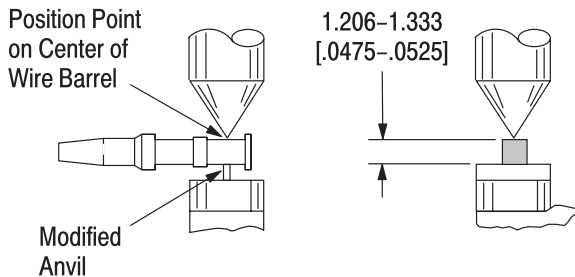

Figure 5
This tool is provided with a crimp adjustment feature. Initially, the crimp height should be verified as specified in Figures 5 and 6. Refer to Section 5, INSPECTION, and Section 6, CRIMP HEIGHT ADJUSTMENT, to verify crimp before using the tool to crimp desired connectors and wire sizes.
This inspection requires the use of a micrometer with a modified anvil as shown in Figure 5.
3. Using a crimp height comparator, measure the crimp height as shown in Figure 5. If the crimp height conforms to that shown, the die assembly is considered dimensionally correct. If not, return the dies to Tyco Electronics for evaluation and repair (refer to Section 8, DIE REPLACEMENT).